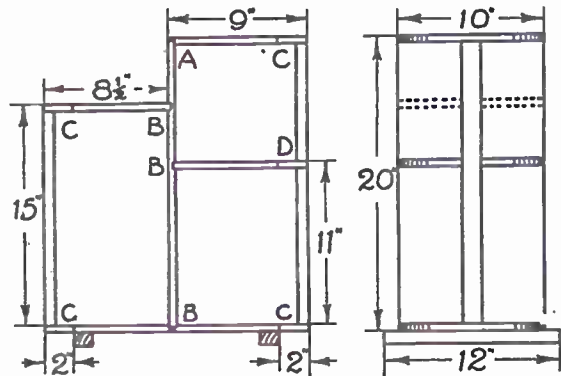
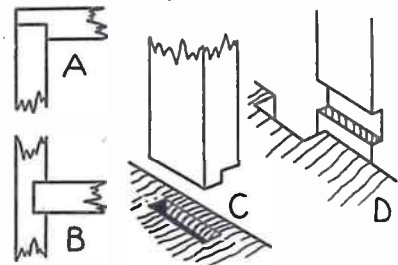

Fig. 1—Side and end views.
Fig. 2—Details of the joints.
Two Hobbies Furniture Panels No. S8 are required, but there will be a little left over for other work. The 20in. piece is cut from one panel, and the 17½in. base from the other. The rest of the parts are then set out. Reference to side and end views at Fig. 1 will help with this part of the work.
At Fig. 2, details are given of the four types of joints used. The diagrams are lettered so that they can be referred to the front and end views at Fig. 1. A start can be made by marking a groove across the baseboard to take the upright centre member. This is ½in. deep and must be the same depth throughout its length. Before cutting the groove, its width should be checked by standing the upright piece over it. This will ensure a good neat joint.
Preparing the upright rails is the next part of the job. Selected 1½in. by ½in. hardwood is obtainable from Hobbies and Agents. Although the lengths between shoulders are 19ins. and 14½ins., it is best to check them by reference to the centre piece. Details of the stub tenon joints are given at (C) in Fig. 2. The tenons, which go the full width of the rails, are ½in. wide and ½in. long. Both mortices and tenons must be marked out and cut very carefully, or